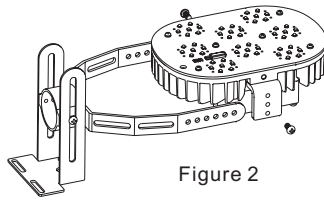

Figure 2
2. Fix the lamp body on the bracket with screws, see Figure 2.